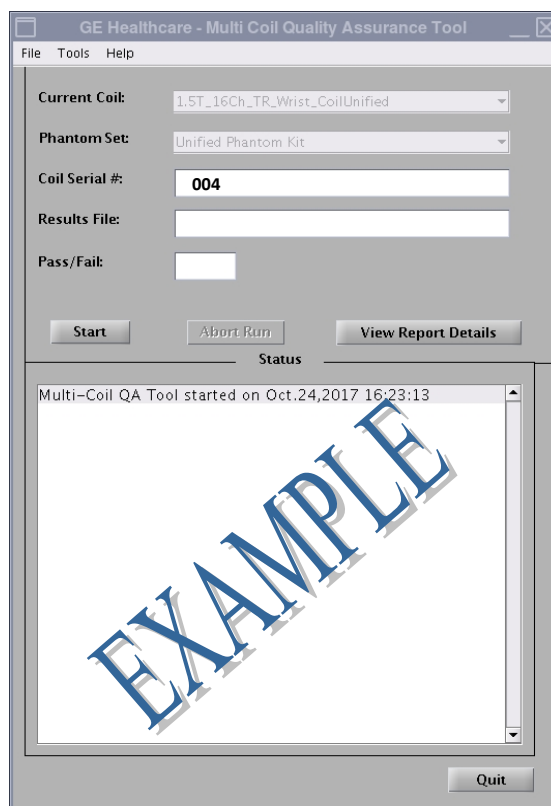

Figure 3
The current coil field will be automatically filled in (Figure 3), based on the CoiID of the coil connected to the LPCA. Enter the serial number of the coil being tested in the Coil Serial number field.
2. Click on **[Start]** to begin the automated test as shown in Figure 3. Depending on the number of test locations (complexity of the coil) the test may take from 3 to 5 minutes.